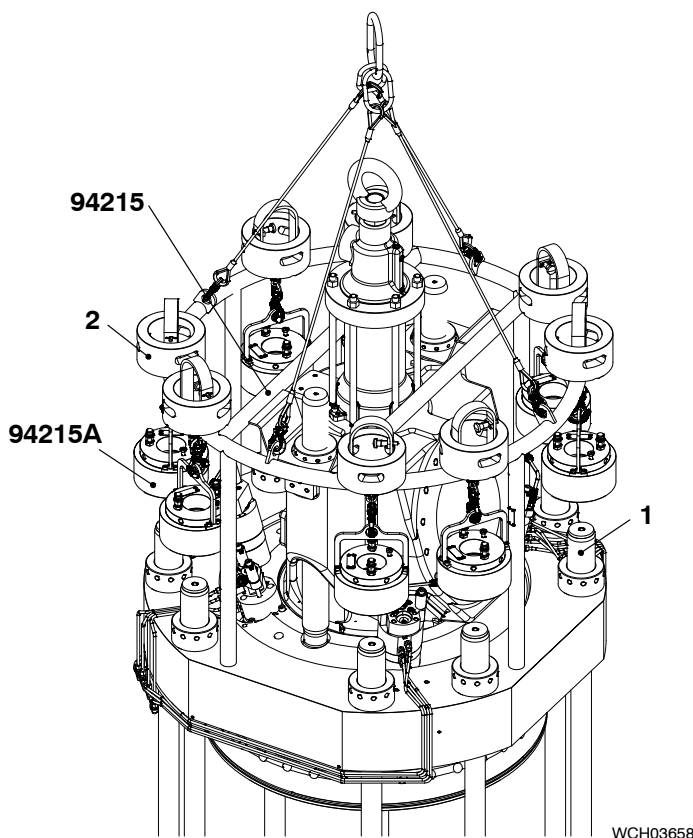

Fig. 2
- 1) Operate the engine room crane to put the lifting tool (94215, Fig. 2) in position above the cylinder cover.
- 2) Lower the lifting tool (94215) to get the eight pre-tensioning jacks (94215A) directly above the elastic studs (1).
- 3) Attach the pre-tensioning jacks (94215A) and the distance sleeves (2) on the elastic studs (1).
- 6) Remove the six round nuts from elastic studs (1).